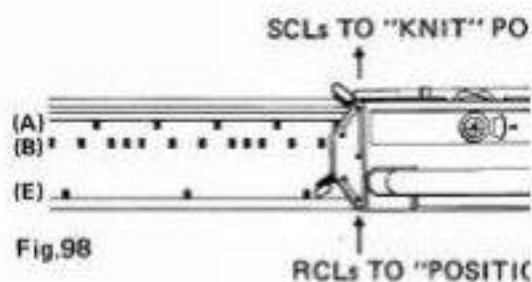

Fig.98
- (b) Push forward into position (E) with your finger every 8th needle starting with 2nd needle from the right end. (Fig.98)